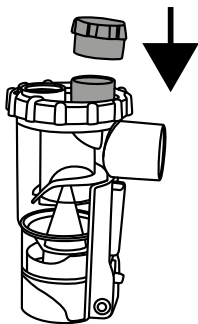

Figure 16
- In order to increase breathing resistance, you can place the PEP cap on to the expiration valve on the top section of the nebuliser (Figure 16).